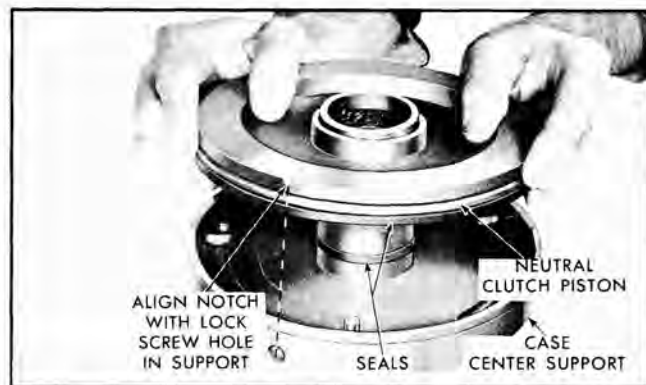

Fig. 97 Installing Neutral Clutch Piston
29. Pilot neutral clutch piston into case center support with notch in edge of piston aligned with lock screw hole in side of case center support (Fig. 97).